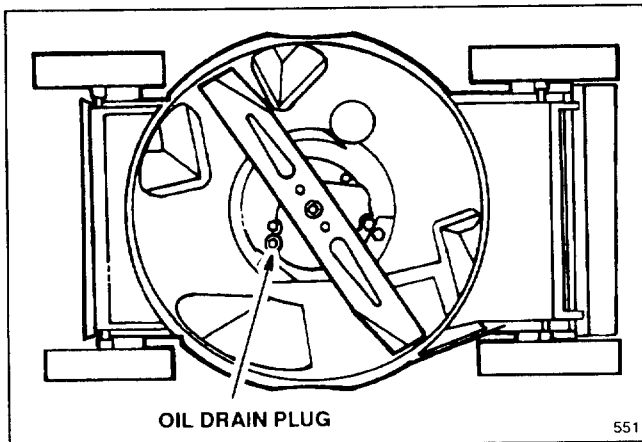

Figure 14
3. Tip mower on its right side (Fig. 14). Place a drain pan under mower.
4. Remove drain plug (Fig. 14) from underside of mower using a $\frac{3}{8}$ " female square drive.